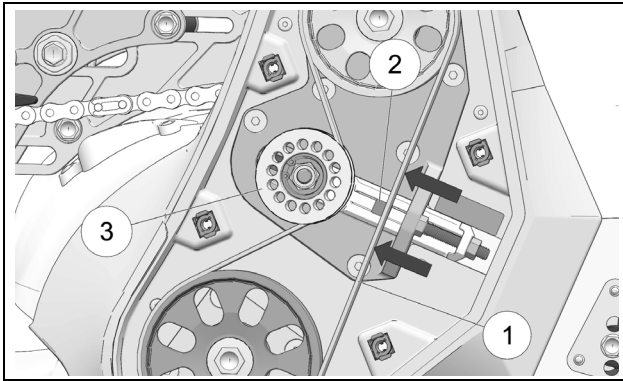

Figure 43
- With your thumbs, apply pressure to the belt (1), where the tension gauge (2) sits, toward the tensioner pulley (3). See Figure 43.